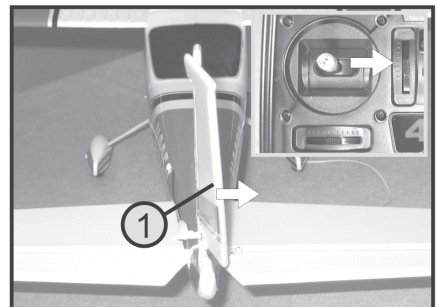

Figure 17c
- If you push the rudder control stick on the transmitter to the right, the rudder (1) has to deflect to the right by approx. 1.5 cm (see figure 17c).